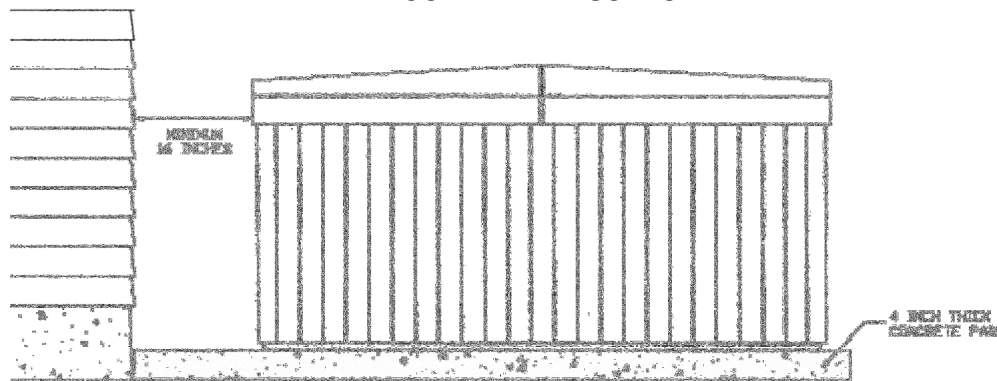

Figure 2
1. Place your spa on a solid, flat, and level surface. We recommend a 4" thick reinforced concrete pad as the best surface. Dirt, sand, concrete pavers, paver stones, etc. are not acceptable surfaces for your spa and these surfaces will void all warranty claims. See figure 2 on page 5 for more information.